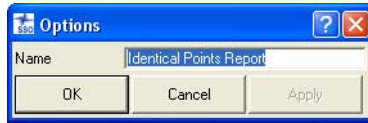

Figure 7-16. Item Options – Identical Points Report
- Identical Points Report – edit the name and click **OK** (Figure 7-16).